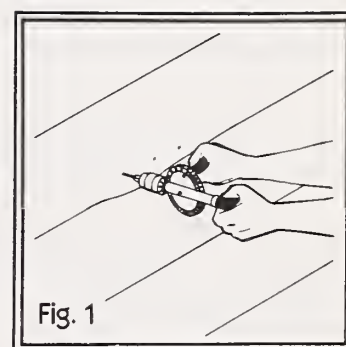

Fig. 1
1. Use screws, rather than nails, to straighten the warped board back in line. First, drill guide holes for the screws into the thicker portion of the board (fig. 1). Then drill the larger holes to countersink the screws.